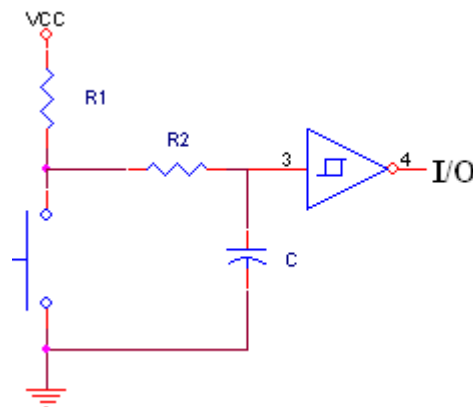

Figure 3: Schematic for hardware debouncing circuit.
1. Assemble the circuit in Figure 3, with $R1 = 2k\Omega$, $R2 = 10k\Omega$, $C = 3.3\mu f$. These values are chosen assuming a push button bounce of about 20ms. The inverting buffer has a Schmitt triggered input. If your MCU has Schmitt triggered input ports, the inverter is not needed. Otherwise provide one externally.